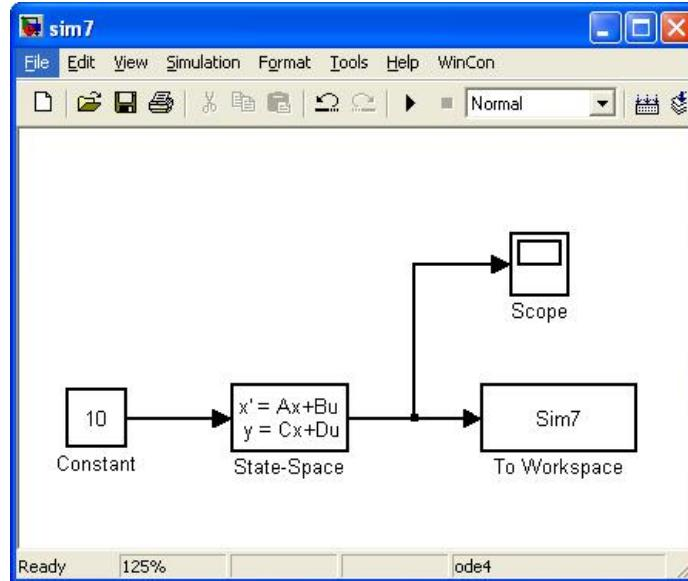

Figure 2.1: Simulink model for a generic second-order system
2. Open Matlab and build a Simulink model according to Figure 2.1. You should have